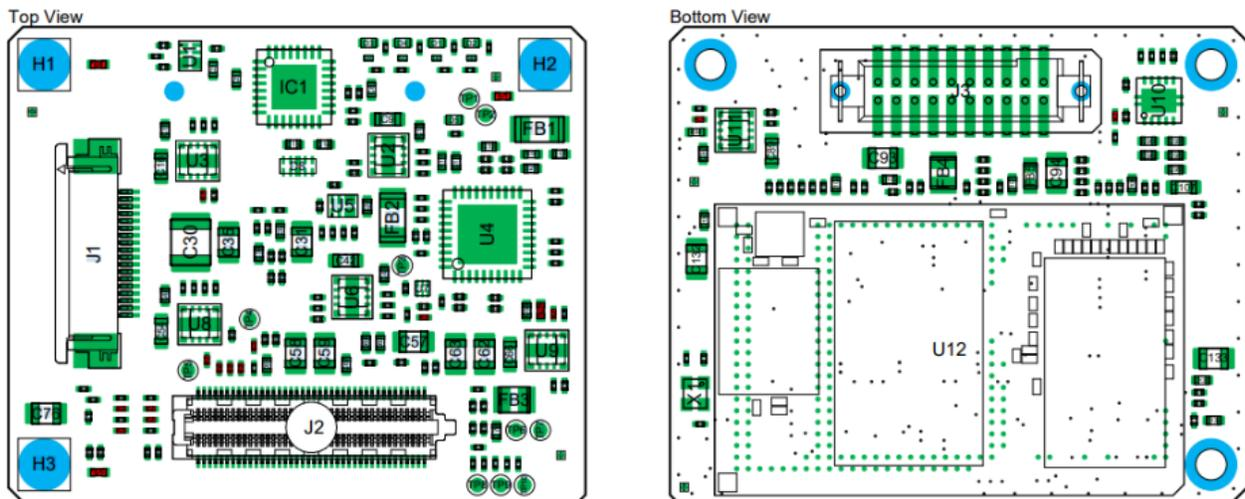

Figure 1: User Interface Card Connector Locations
4.2.1 The external connector, J3, on the Interface card is a Samtec TFM-110-02-S-D-WT. The mating connector housing is Samtec ISDF-10-D-M, and the connector contacts are Samtec CC03M-2830-01-G. A flying-lead mating connector/cable assembly is available, Samtec SFSD-10-28-H-1.00-SR (Digikey SAM8669-ND). See Figure 1: User Interface Card Connector Locations.